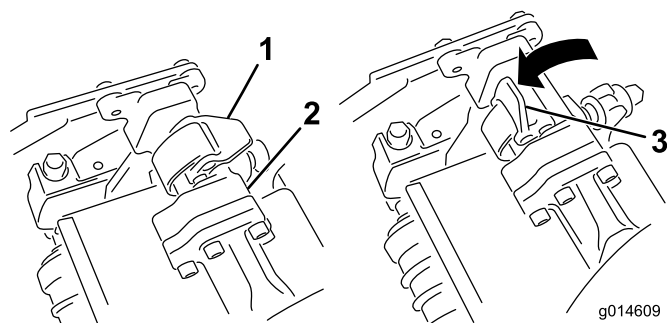

**Figure 32**
1. Lift up on the foot rest and swing it open, allowing access to the center cutting unit position (Figure 32).